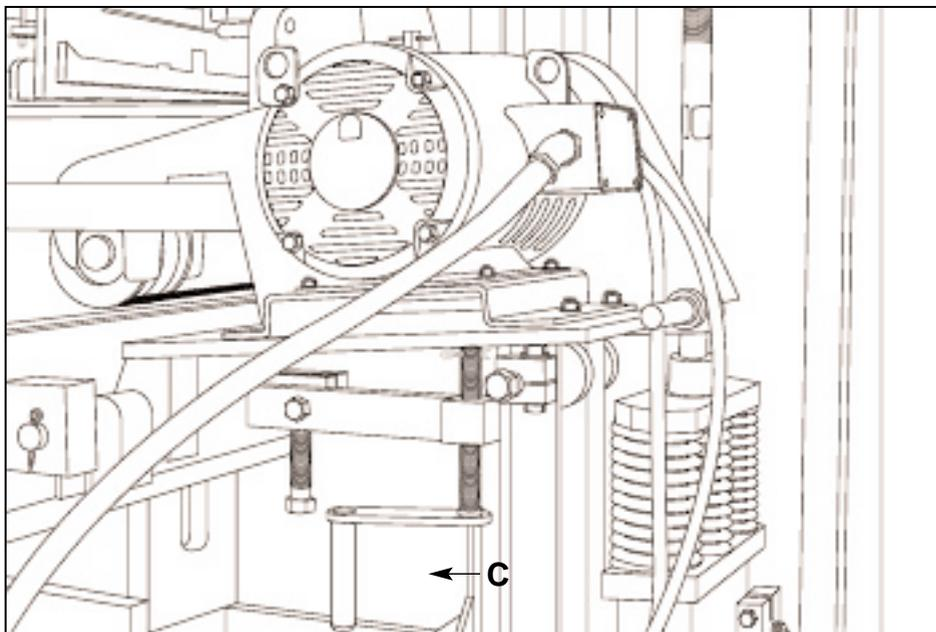

Figure 5.14 RAISING THE VIBRATOR MOTORS WITH SCREW JACK (C).
- 5.4.16 Raise both vibrator motors with screw jacks (C) (see figure 5.14). Screw vibrator jacks up and place V-belts from vibrating motor sheaves to vibrating shaft sheaves. On a standard vibration system, you must install 4 belts on each side. On a Smartpac system, you must install 2 belts on each side.